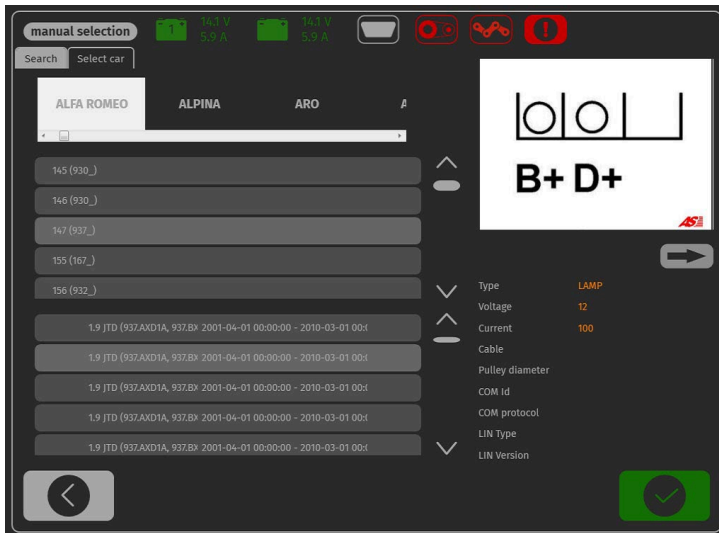

Figure 11. Database search menu and search results
Referring to the alternator OEM, that is commonly indicated on the body or rear cover, find the information on the alternator connector terminal references in the bench database (fig. 11):
2. In the opened window (fig. 11), in **Search** tab, enter the alternator serial number and press **Search** button, or in **Select car** tab, choose the car make and model of car where the diagnosed alternator was installed.